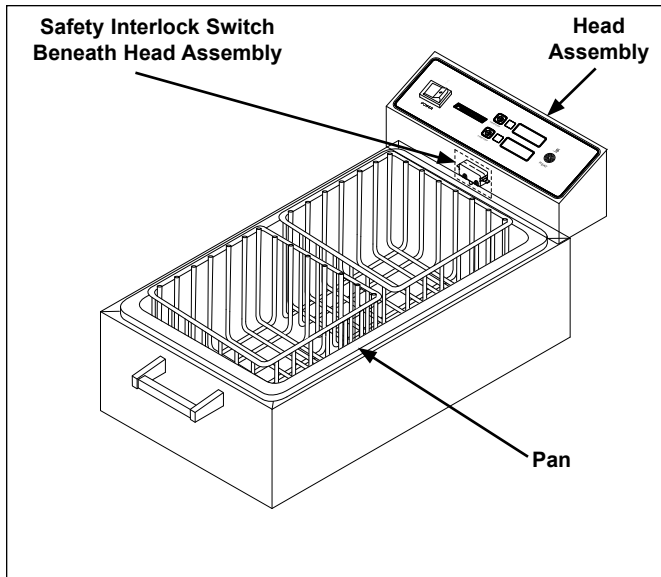

Figure 1. Corn Cooker
NOTE: If the light on the Rocker Switch does not light up, remove and reinstall the Head Assembly onto the pan (Figure 1) to ensure that the Safety Interlock Switch is properly engaged. If the Safety Interlock Switch is not engaged, the Rocker Switch light will not turn on, therefore, the unit will not heat.
2. Load the desired basket with a full or partial load of corn and immerse the baskets in the pan. Water should completely cover corn. Add more hot water if required (Figures 1 and 2)